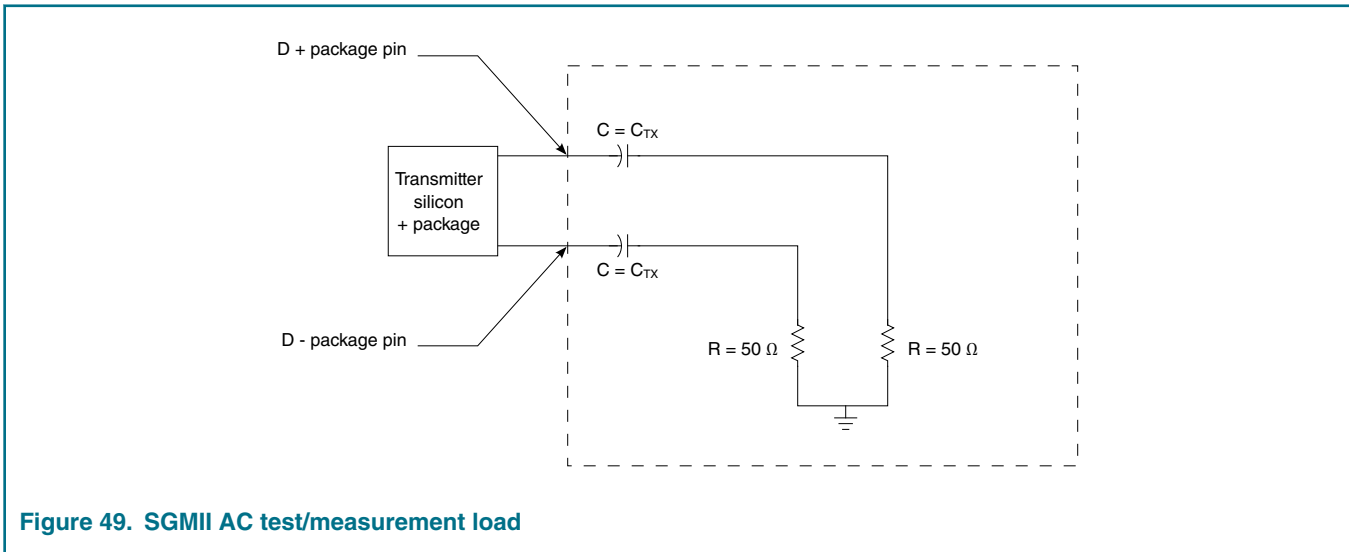

Figure 49. SGMII AC test/measurement load
1. See Figure 50. on page 154. 2. Each UI is 800 ps ± 100 ppm or 320 ps ± 100 ppm. 3. The external AC coupling capacitor is required. It is recommended that it be placed near the device transmitter output. 4. See Figure 49. on page 153.